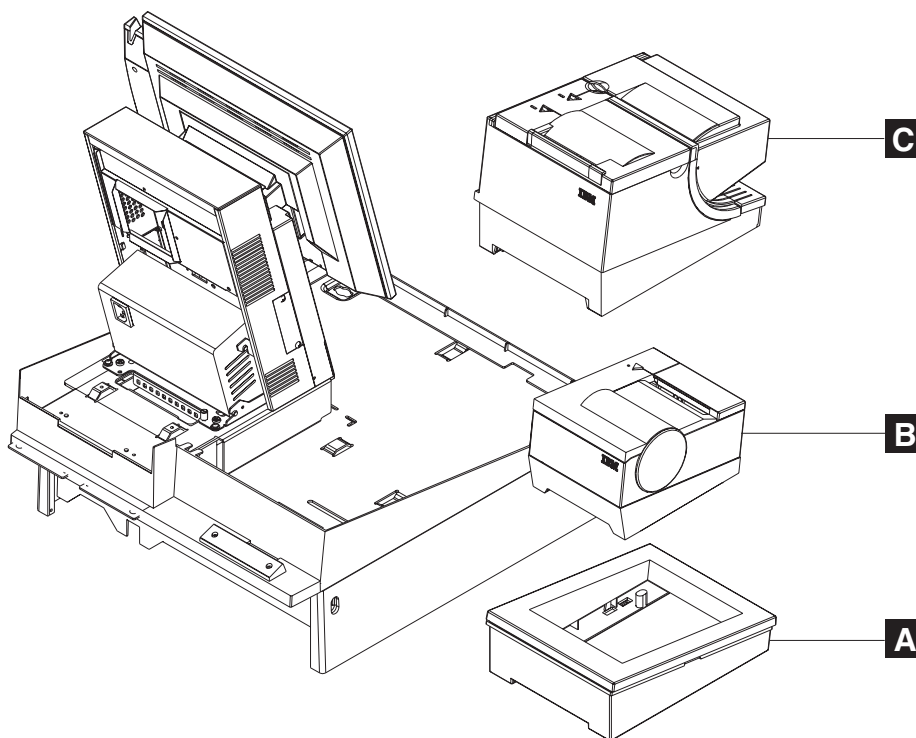

Figure 102. Installing the 4610 SureMark printer onto the keyboard integration tray
- c. For the 4610 SureMark TF6 or TF7 printer on a **keyboard integration tray**, lift the printer up and off the printer base. See Figure 102 on page 126 for details.